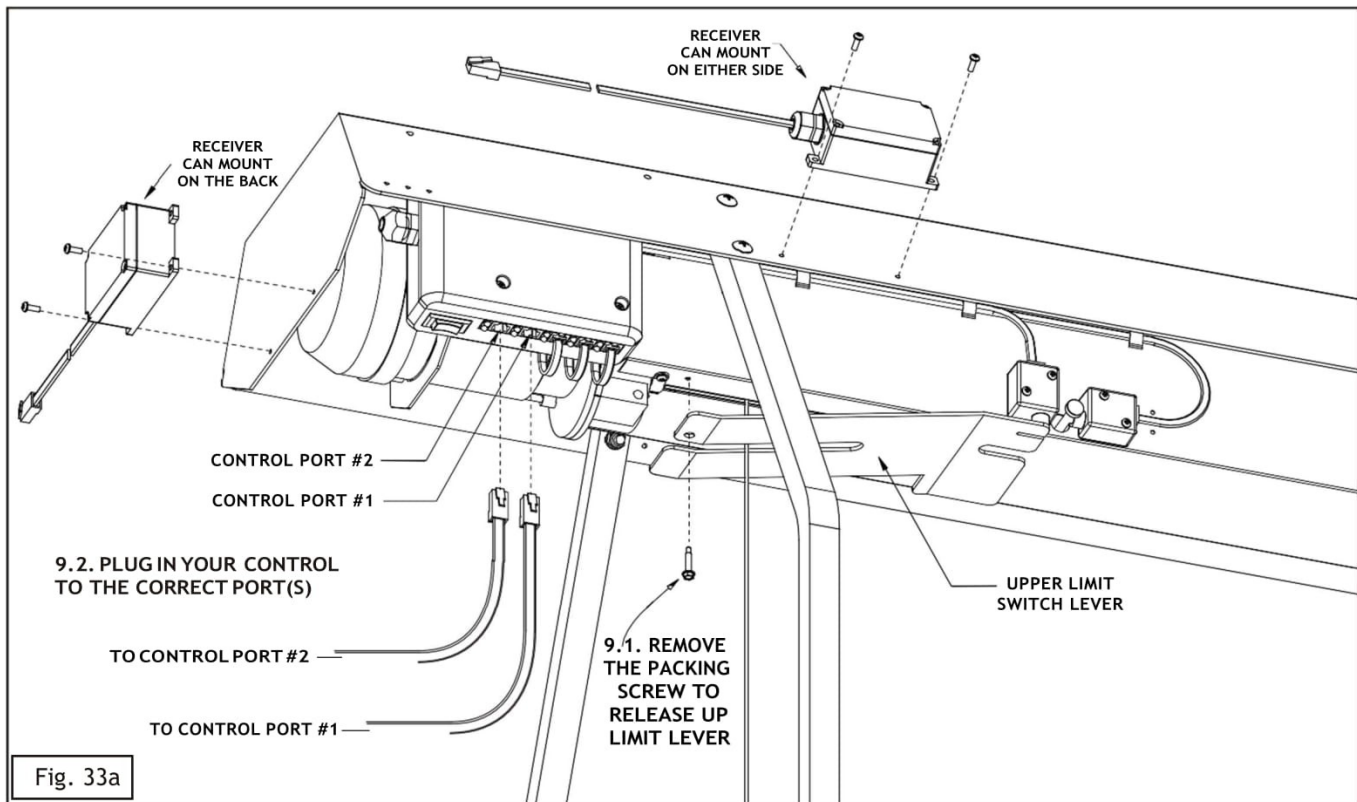

Fig. 33a
Remove the packing screw (see Fig. 33a) to release the upper limit switch lever. **NOTE: The Lift will not run in the up direction until this lever is free to operate the up limit switch!**
- The wireless radio receiver plugs into Port #1. (The receiver can be mounted on the back of the lift head, or on either side of the lift head. See Fig. 33a.)
See Fig. 33a below for the location of control Ports #1&2. Please note the orientation of the locking tab on the plug, as the plug will only insert one way. The locking tab must be depressed whenever you wish to remove the plug.
10-4. When the platform comes all the way up, it will lift the upper limit switch lever (see Fig 33a), stopping the motor and the platform before it can impact the Lift Head. The platform should be approximately level with the floor.